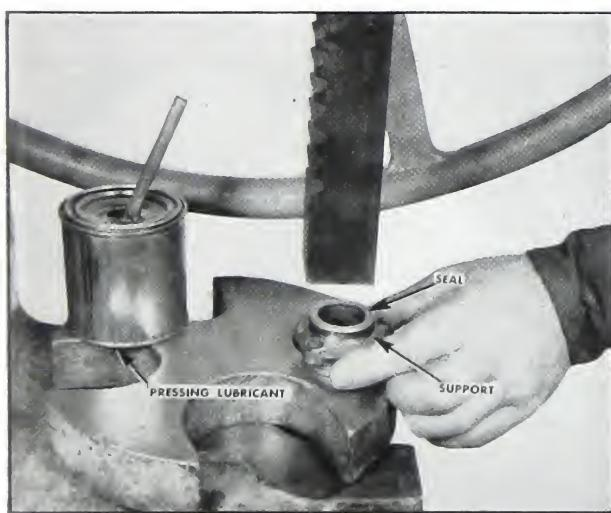

Fig. 5-313. Assembling oil seal to bearing retainer
5. Replace the retainer "O" ring and press in the oil seal. Fig. 5-313.